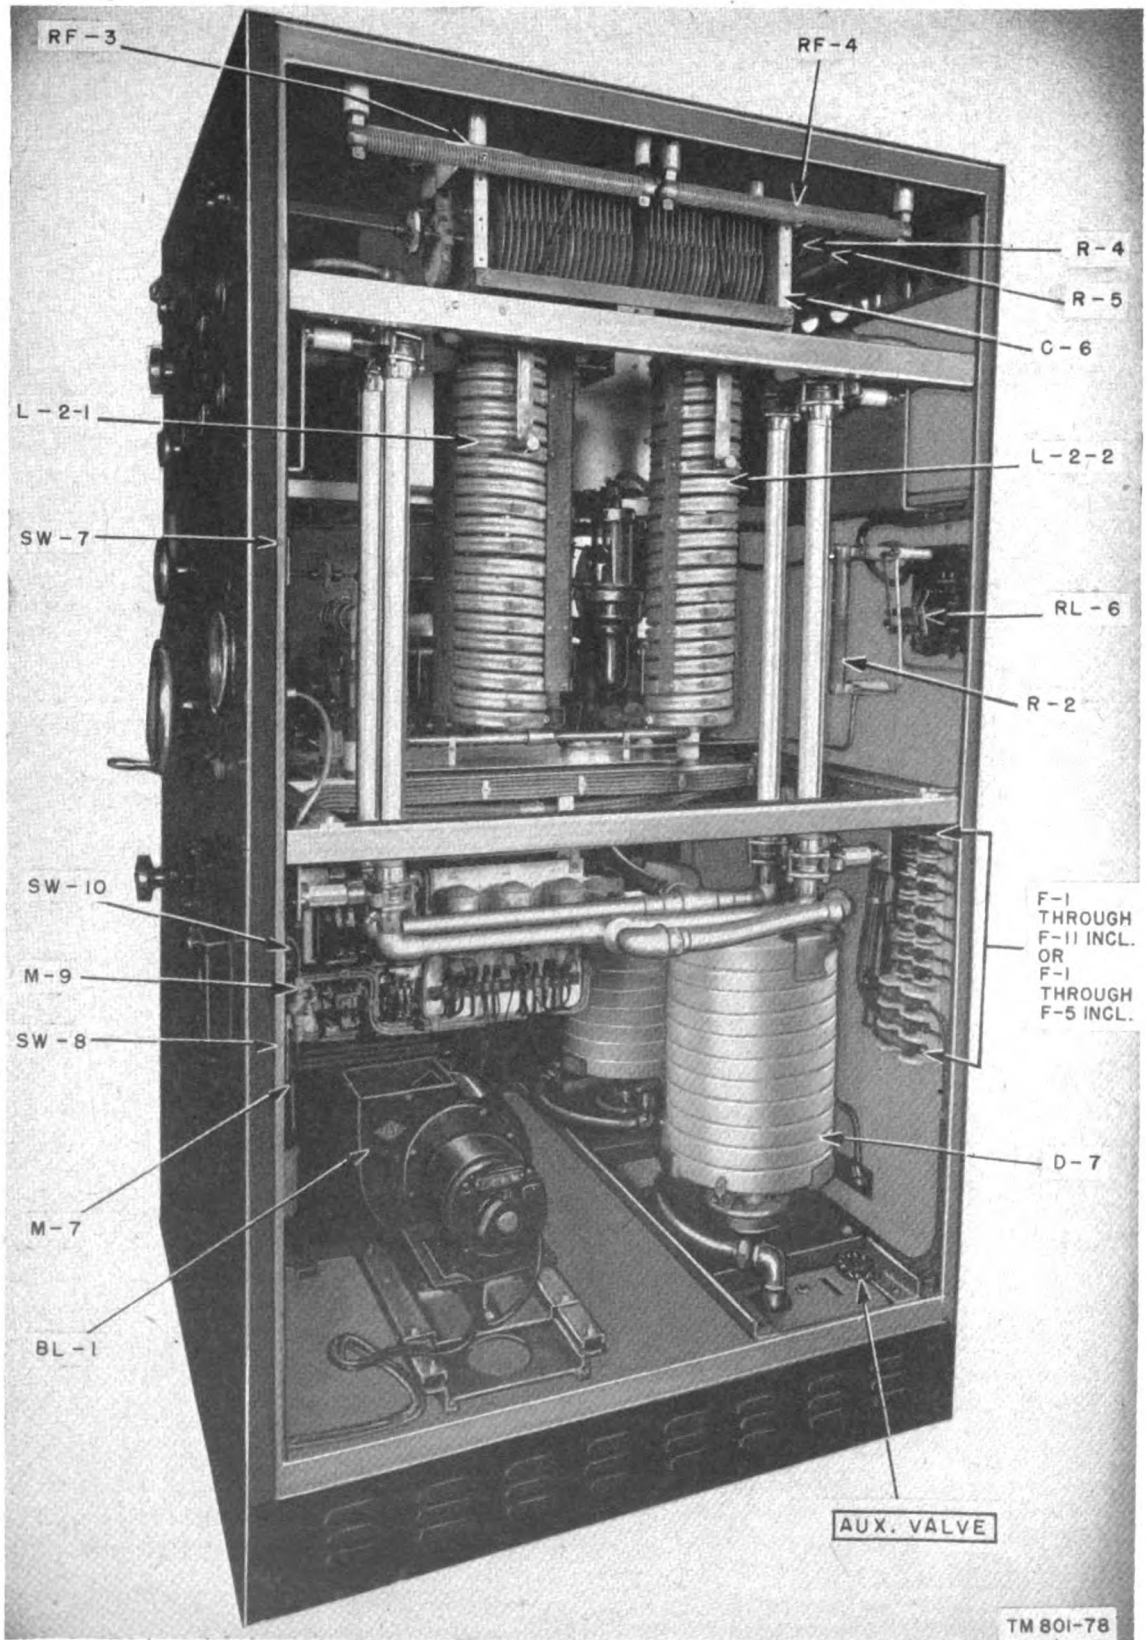

Figure 7.—Power Amplifiers BC-340-A, -B, and -D through -H, inside right side.
b. The right side of the unit has two doors, each of which can be opened by two handles located near the front of the unit. These doors swing open, giving access to the inside of the power amplifier (fig. 7 or 8). An interlock safety switch is controlled by each of these doors.